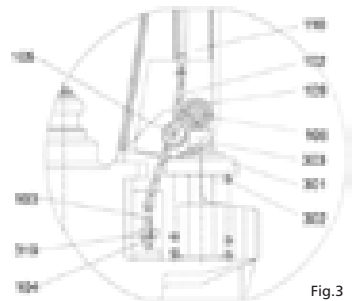

Fig.3
2. Let control handle to the 'LOWER' position, then pass the adjusting nut, adjusting bolt and chain through the hole of axle with your hand (See fig. 3).